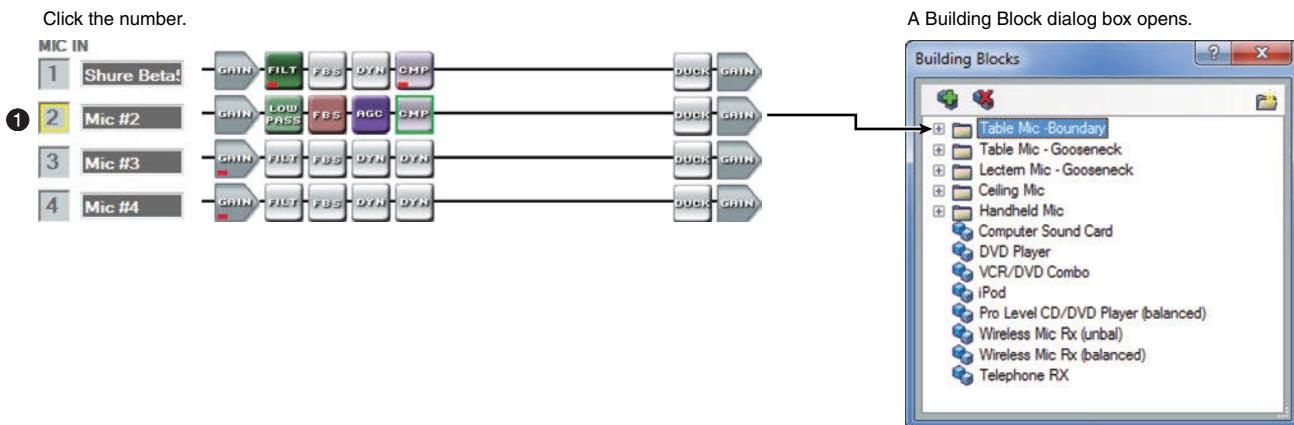

Figure 67. Building Block Dialog Box
2. **Open the Building Blocks dialog box:** Click the **Mic Input 2** number box (see figure 67, ①). The Building Blocks dialog box opens.